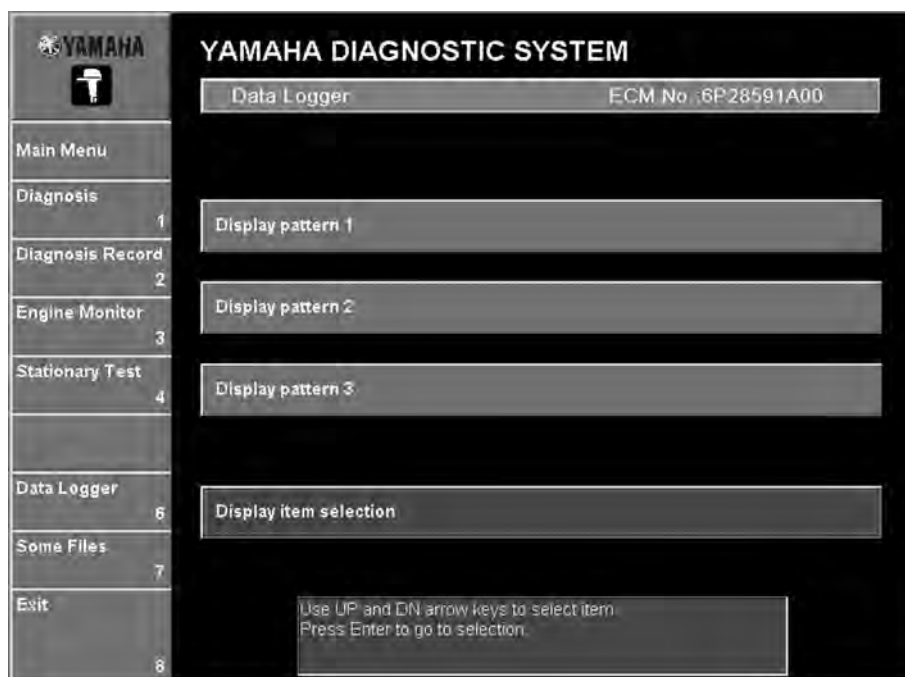

Fig. 121
3. To select the graph items, click the **Display item selection** button or press the up or down arrow key on your keyboard to select it and press the Enter key. (Fig. 121)